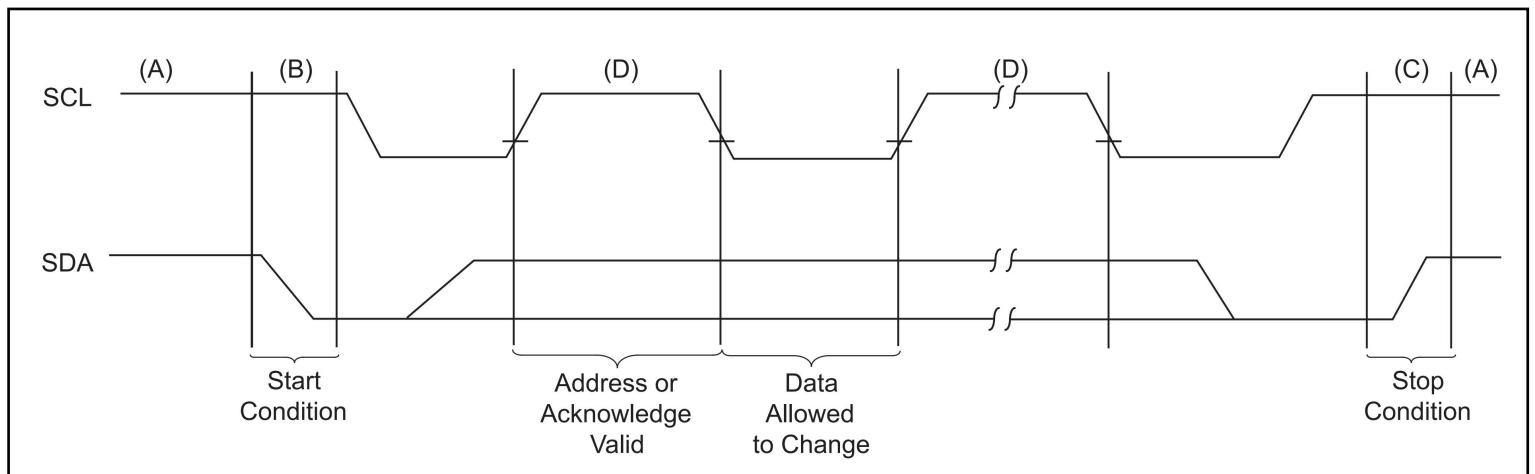

FIGURE 3: DATA TRANSFER SEQUENCE ON THE SERIAL BUS
- During data transfer, the data line must remain stable whenever the clock line is high. Changes in the data line while the clock line is high will be interpreted as a Start or Stop condition. Accordingly, the following bus conditions have been defined (Figure 3).